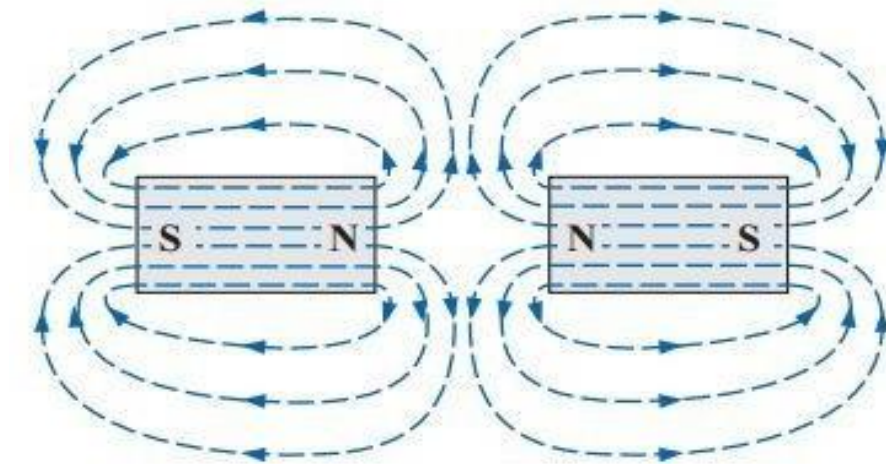

FIG. 11.3
- If like poles are brought together, the magnets will repel and the flux distribution will be as shown in Fig. 11.3